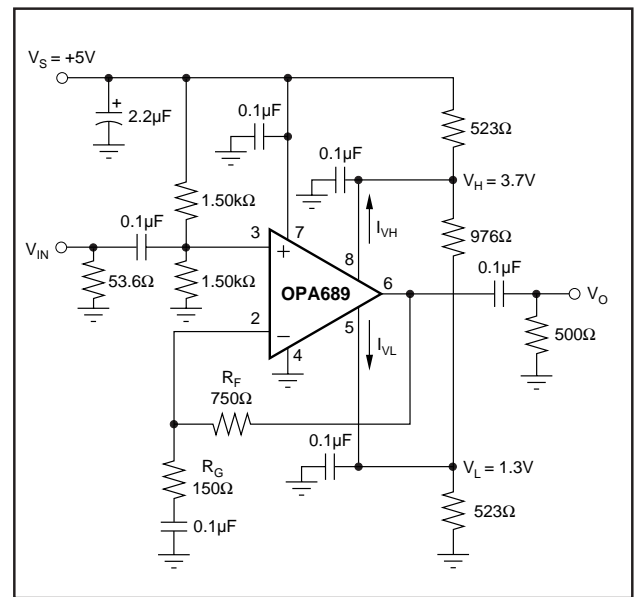

FIGURE 2. AC-Coupled, Single Supply Amplifier.
$G = +6$, $R_F = 750\Omega$, $R_L = 500\Omega$ tied to $V_{CM} = 2.5V$, $V_L = V_{CM} - 1.2V$, $V_H = V_{CM} + 1.2V$, (Figure 2 for AC performance only), unless otherwise noted.
NOTES: (1) Junction Temperature = Ambient Temperature for low temperature limit and 25°C guaranteed specifications. Junction Temperature = Ambient Temperature + 23°C at high temperature limit guaranteed specifications. (2) TEST LEVELS: (A) 100% tested at 25°C. Over temperature limits by characterization and simulation. (B) Limits set by characterization and simulation. (C) Typical value for information only. (3) Current is considered positive out of node. (4) CMIR tested as < 3dB degradation from minimum CMRR at specified limits. (5) I_{VH} (V_H bias current) is negative, and I_{VL} (V_L bias current) is positive, under these conditions. See Note 3 and Figures 2 and 7. (6) Limiter feedthrough is the ratio of the output magnitude to the sine wave added to V_H (or V_L) when $V_{IN} = 0$. (7) V_H slew rate conditions are: $V_{IN} = V_{CM} + 0.4V$, $G = +6$, $V_L = V_{CM} - 1.2V$, $V_H =$ step between $V_{CM} + 1.2V$ and V_{CM} . V_L slew rate conditions are similar. (8) Linearity Guardband is defined for an output sinusoid ($f = 5MHz$, $V_O = V_{CM} \pm 1V_{p-p}$) centered between the limiter levels (V_H and V_L). It is the difference between the limiter level and the peak output voltage where SFDR decreases by 3dB (see Figure 8).
$G = +6$, $R_F = 402\Omega$, $R_L = 500\Omega$ tied to $V_{CM} = 2.5V$, $V_L = V_{CM} - 1.2V$, $V_H = V_{CM} + 1.2V$, (Figure 2 for AC performance only), unless otherwise noted.
Figure 2 shows an AC coupled, non-inverting gain amplifier for single supply operation. This circuit was used for AC
The OPA689 is nominally specified for operation using either $\pm 5\text{V}$ supplies or a single $+5\text{V}$ supply. The maximum specified total supply voltage of 13V allows reasonable tolerances on the supplies. Higher supply voltages can break down internal junctions, possibly leading to catastrophic failure. Single supply operation is possible as long as common mode voltage constraints are observed. The common mode input and output voltage specifications can be interpreted as a required headroom to the supply voltage. Observing this input and output headroom requirement will allow design of non-standard or single supply operation circuits. Figure 2 shows one approach to single-supply operation.
When the limiter voltages need to be within 2.1V of the supplies ($V_L \leq -V_S + 2.1V$ or $V_H \geq +V_S - 2.1V$), use low impedance voltage sources to set V_H and V_L to minimize errors due to bias current uncertainty. This will typically be the case for single supply operation ($V_S = +5V$). Figure 2 runs 2.5mA through the resistive divider that sets V_H and V_L . This keeps errors due to I_{VH} and $I_{VL} < \pm 1\%$ of the target limit voltages.